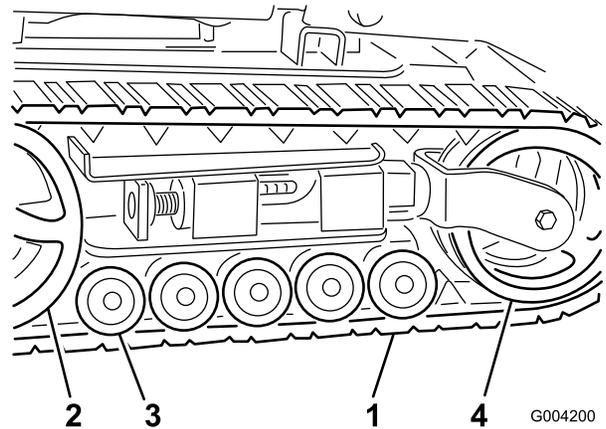

Figure 38
**Important:** Ensure that you fully clean the road wheels, the tension wheel, and the drive sprocket (Figure 38). The road wheels should rotate freely when clean.